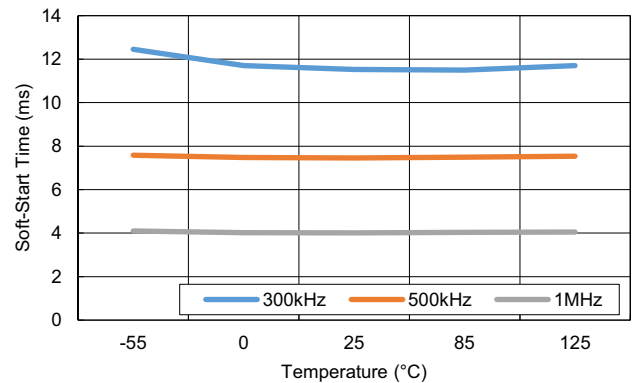
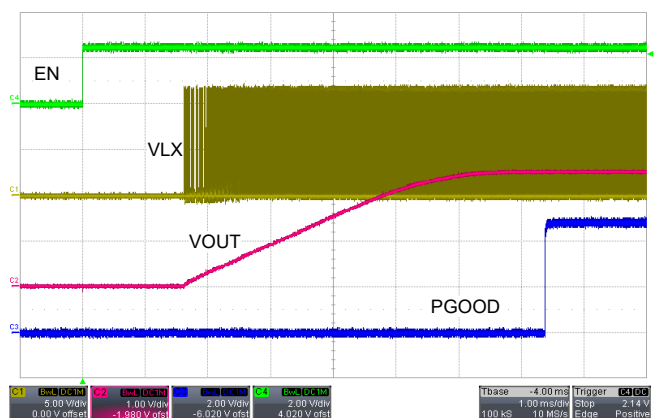
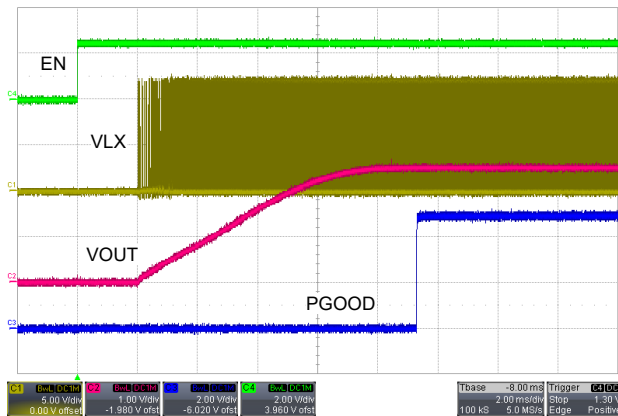

Figure 32. EN to PG Time vs Switching Frequency
Figure 34. ENABLE to LX and VOUT to PGOOD Turn-On 500kHz
Figure 35. ENABLE to LX and VOUT to PGOOD Turn-On 300kHz
During soft-start, the ISL73007M monitors for overvoltage (OV) and over-temperature (OT) faults and remains idle if either fault is active. The soft-start time is dependent on the operating switching frequency during startup (see Figure 32). There is a delay from enable active to LX activity during which the ISL73007M internal circuitry is biased. This delay time is frequency dependent, typically 2ms for 300kHz and 1.3ms for 1MHz (see Figure 34 and Figure 35).